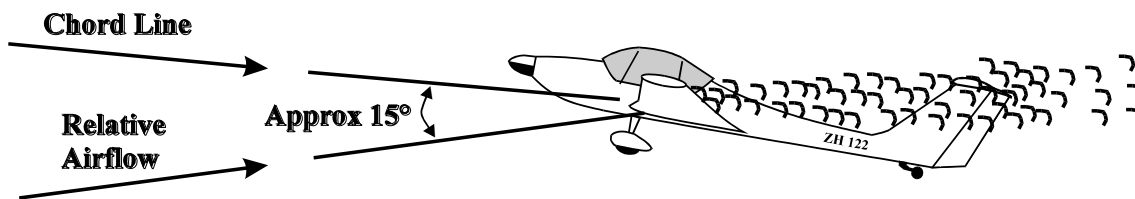

Fig 12. The approaching stall.
2. **Considerations.** When the angle of attack of an aerofoil exceeds a critical angle (about 15° for the Vigilant wing) the airflow over the aerofoil will progressively become turbulent and break away. See Fig 12. This dramatically reduces the amount of lift generated until it is no longer enough to support the aircraft and a large and rapid loss of height can occur. You will learn to recognise the symptoms of a stall and the correct recovery technique. Finally, you will learn to recognise the signs of a developing stall, so that you can prevent it from happening.